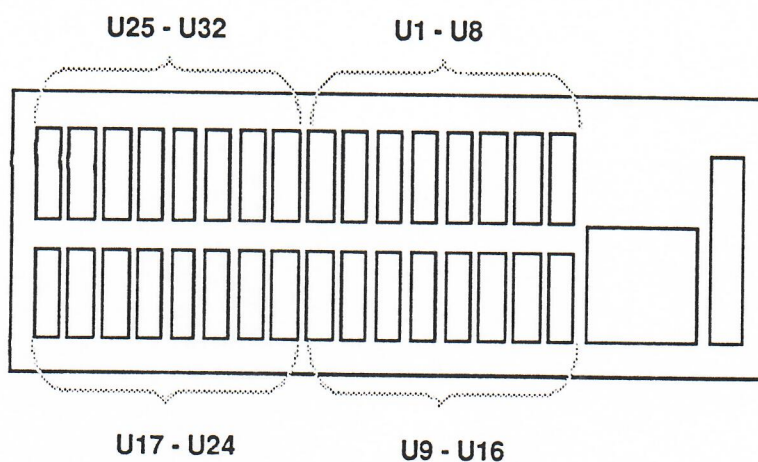

FIGURE 3
- a) If a RAM chip fails, a numbered location on the board will be indicated on the screen (Figure 3).